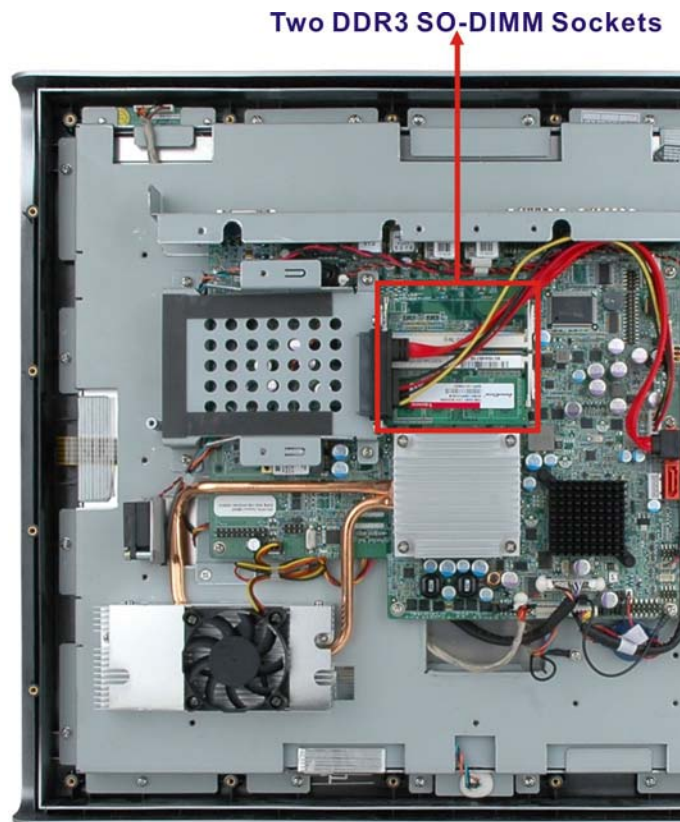

Figure 4-2: SO-DIMM Socket Location
Step 4: Lift the HDD bracket away to expose the DIMM connectors. See (Figure 4-2).